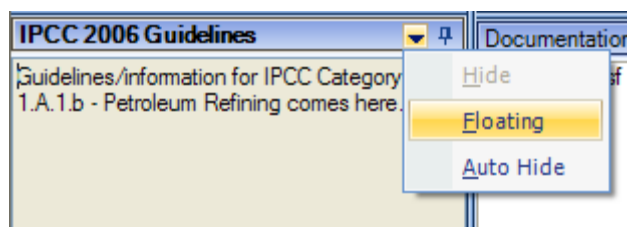

Figure 4.2 - Dockable window menu
3. Clicking on down-arrow icon in the top bar displays the menu containing "Floating" menu item. Clicking this item undocks window. (Figure 4.2)